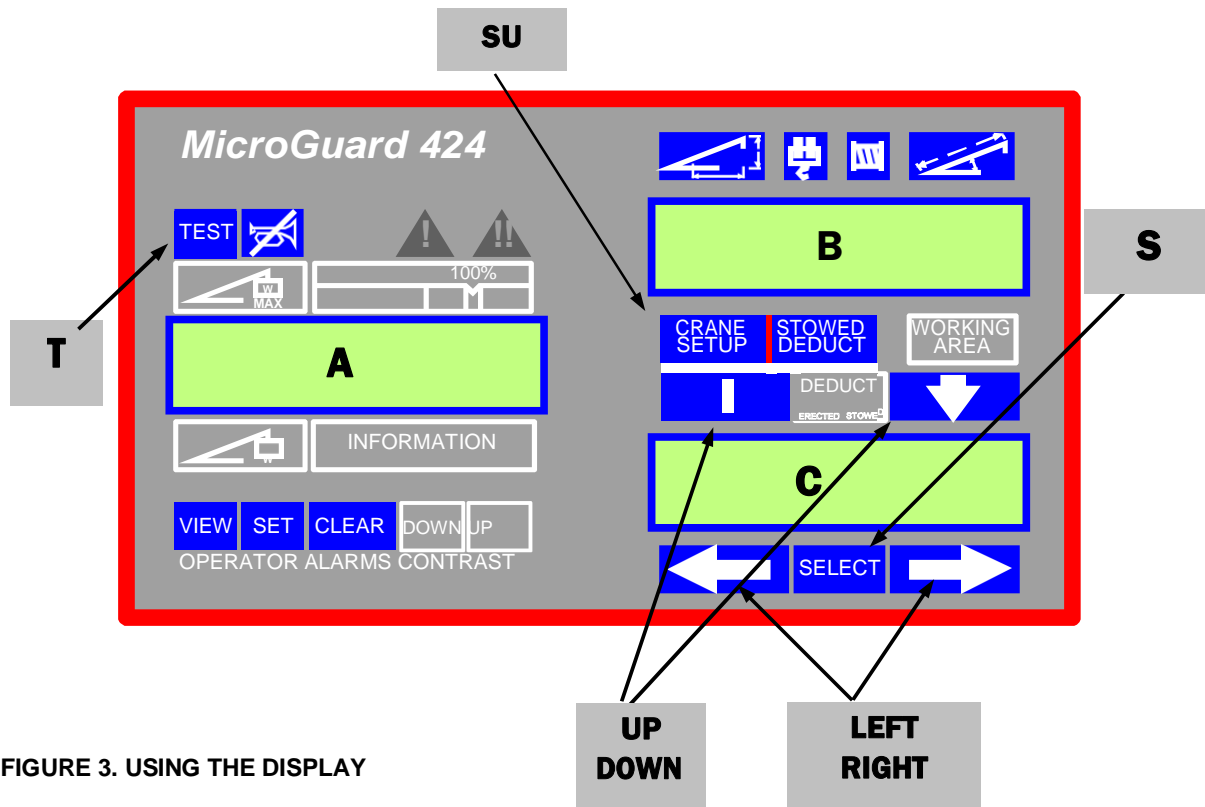

FIGURE 3. USING THE DISPLAY
1. To access the calibration routines, **simultaneously press and hold** the SELECT (S) and TEST (T) keys on the Display Unit for approximately 2 seconds. See Figure 3, page 7.
The Display Unit, shown in Figure 3 on the next page, is the tool used by the operator to calibrate the System. Using the arrow and text keys on the Display Panel, the operator can enter, change, delete, and finalize calibration information.